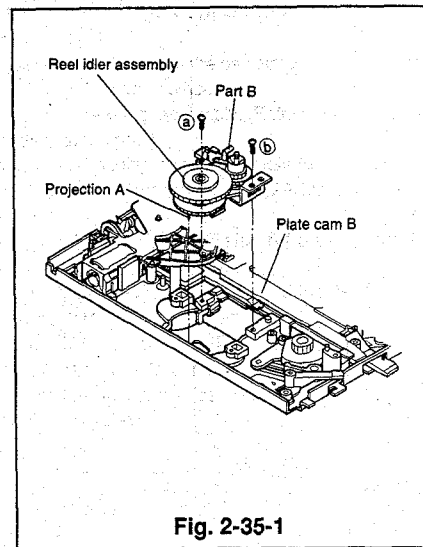

Fig. 2-35-1
- ① Insert the part B of the reel idler assembly under the plate cam B as shown in Fig. 2-35-1 and ensure projection A enters the hole on the main plate. Position the reel idler assembly so that its screw holes are aligned and secure it with the two screws (a) and (b).